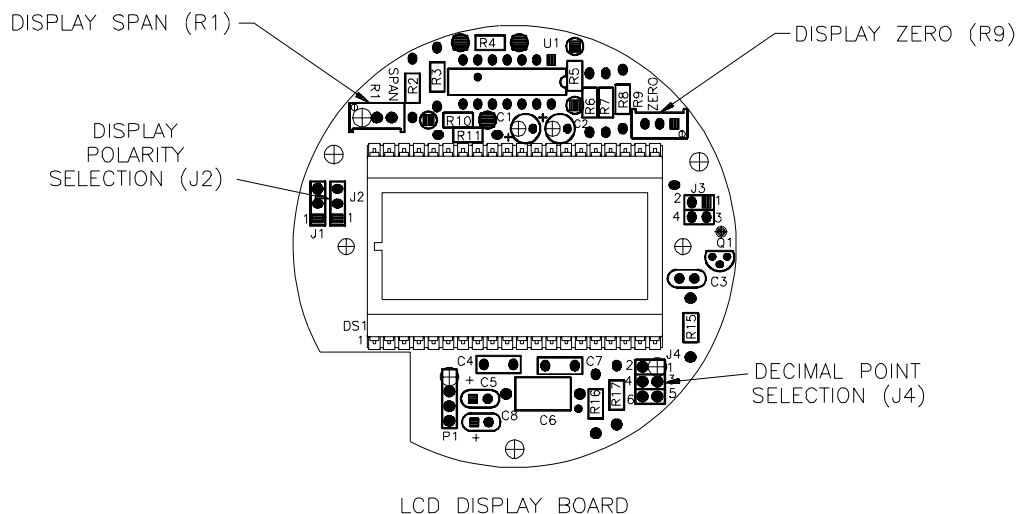

Figure 5
6. Verify the LCD display (if so equipped) reads 000 ± 001 . Adjust as necessary using **ZERO** (R9 on display board). See Figure 5.
7. Verify the LCD display (if so equipped) reads the desired minimum process value ± 001 . Adjust as necessary using **ZERO** (R9 on display board). See Figure 5.